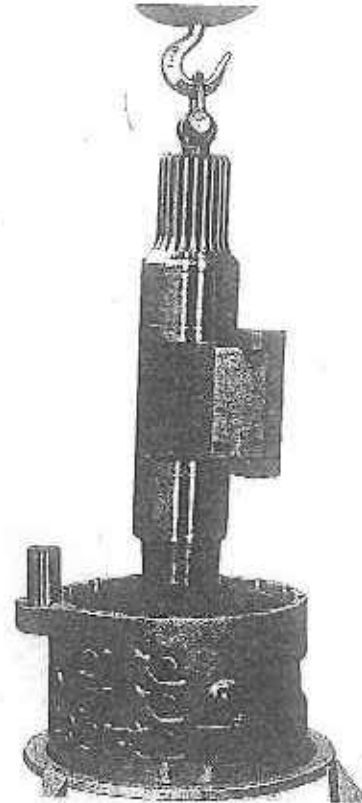

FIG. 11
13. (Fig. 11) Screw a lifting eye into the end of the shaft and raise the shaft clear of the barrel.